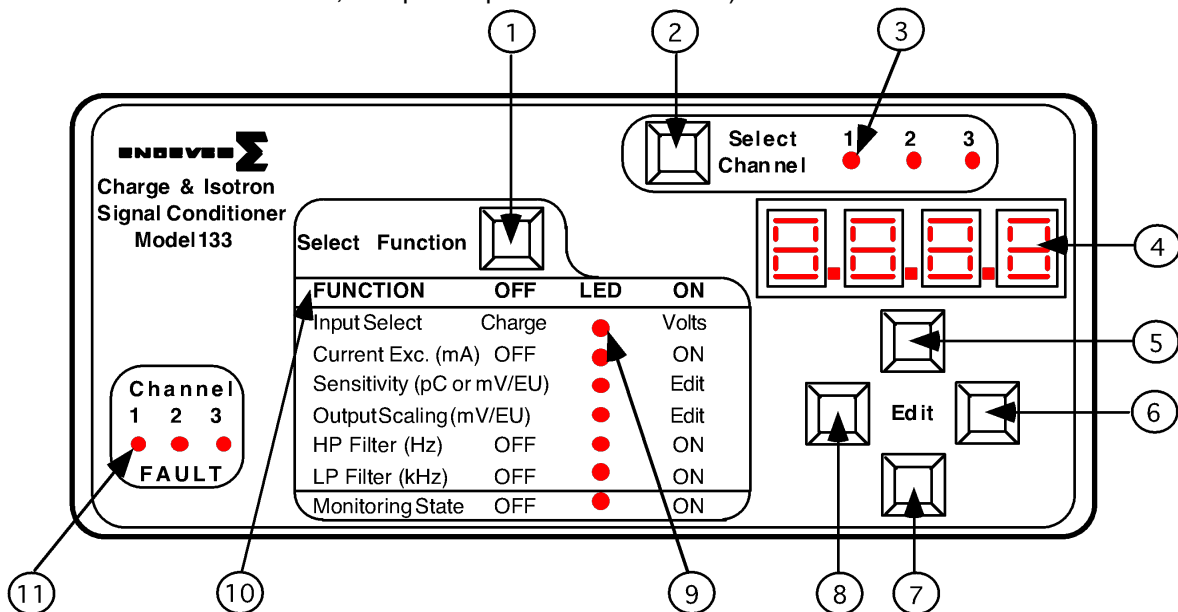

Figure 1
The Endevco Model 133 can be manually programmed from the front panel (Figure 1) by means of a "Select Channel" push-button, three (3) "Channel LEDs", a "Select Function" push-button, seven (7) "Function LEDs" indicating which function has been selected by the "Select Function" push-button (referred to in this document as the "function LEDs"), a four (4) character LED display to show the state of each function, four (4) "EDIT" push-buttons to change the entries in the LED display, and three (3) LEDs indicating if there are any faults in any of the channels (referred to in this document as the "Fault LEDs").
Shown in Figure 1 is the Model 133 front panel. The front panel is a mylar overlay, adhesively attached to the front panel aluminum plate. The mylar overlay has cutouts for the six push buttons, and clear windows for 13 LED's and the 4-digit panel meter. Each push button and LED are described as follows:
Figure 1 Item 1, is the "Select Function" push button that controls the functions listed below it. Pressing the Select Function push button scrolls through the LED's. The function selected can be modified while the LED is flashing, located to the right of the associated function.
Figure 1 Item 2, is the "Select Channel" push button. Pressing this push button sequentially selects channels one to three, which is used for set up and display of data on the digital panel meter. The appropriate channel's LED remains illuminated until a different channel is selected.
Figure 1 Item 3, is the LED for channel one of the three channel unit. The LED illuminated corresponds to the channel that is actively being set up or data displayed on the DPM.
Figure 1 Item 4, is the digital panel meter (DPM). The DPM displays alpha-numerics for the appropriate "Select Channel" selected and is used to display the channel set up and for actual data display. The DPM has an accuracy of $\pm 10\%$. (See Section 2.4, Operation and sub-sections contained, for specific push button abilities.)
Figure 1 Items 5, 6, 7, and 8 correspond, respectively to the "Up", "Right", "Down" and "Left" Edit push buttons. These push buttons are used to change the entries on the digital panel meter and are used in conjunction with the appropriate "Select Function" parameter to be programmed. (See Section 2.4, Operation and sub-sections contained, for specific push button abilities.)
Figure 1 Item 9, is one of seven Function parameters LED's that is selectable/programmable. The flashing LED identifies the function that is actively capable of being set up or modified at that time.
Figure 1 Item 10, is a list of "Functions" that are programmable for each channel, which are selected by the "Select Function" push button and are set up or modified with the four "Edit" push buttons.
Figure 1 Item 11, are the "Fault" LED's. The illuminated LED indicates that particular channel is in the ISOTRON mode, the current excitation is on and there exists a short or open circuit for the input.
The Endevco Model 133 can be manually programmed from the front panel (See Figure 1) by means of a “Select Channel” push-button, three (3) “Channel LEDs”, a “Select Function” push-button, seven (7) “Function LEDs” indicating which function has been selected by the “Select Function” push-button (referred in this document as the “function LED’s”), a four (4) character LED display to show the state of each function, four (4) “EDIT” push-buttons to change the entries in the LED display, and three (3) LEDs indicating if there are any faults in any of the channels (referred in this document as the “Fault LED’s”).